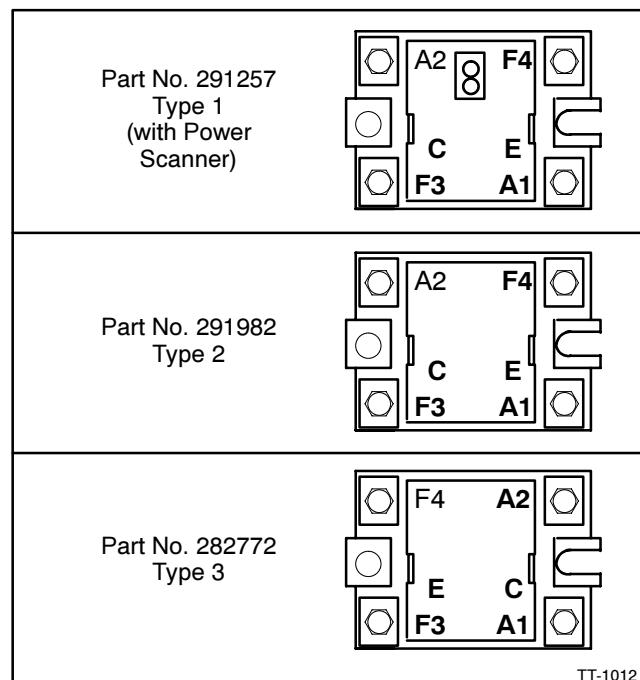

Figure 11 FR™ Activator Variations
Note: Terminals E and C were reversed on earlier versions of the FR™ activator. See Figure 11.
Note: Earlier versions of the FR™ activator had terminals F4 and A2 reversed. See Figure 11. Connect leads to terminal with the same terminal designation regardless of the terminal position.
10. Before removing FR™ activator compare terminals with new SCR assembly. The leads may not reach SCR assembly terminals if mounted incorrectly. See Figure 11 for variations of the FR™ activator.